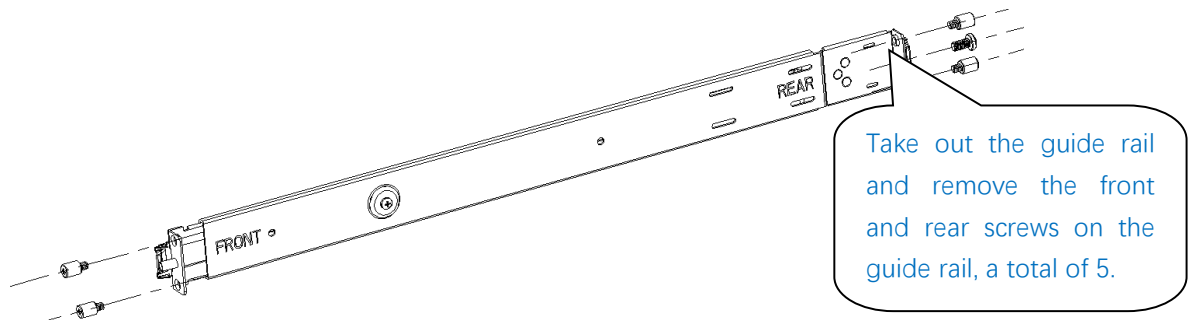
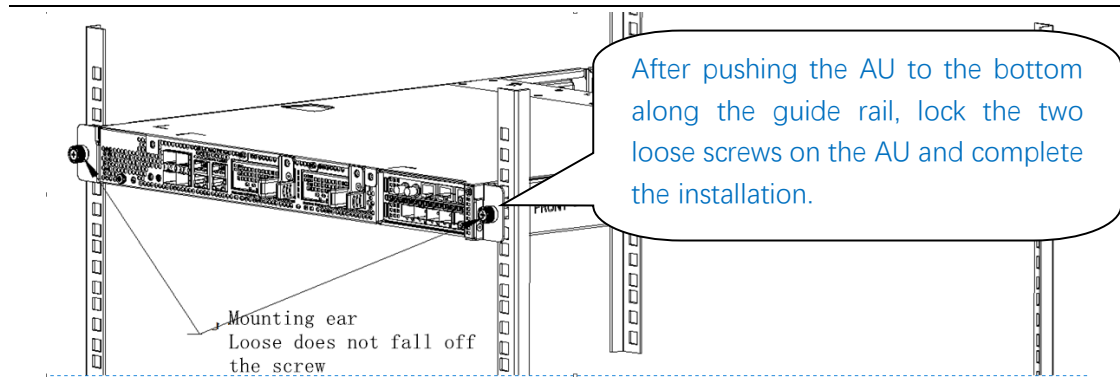

Figure 3-8
Figure 3-11
Step 2: Install the sliding rail on the cabinet, as shown in Figure 3-8 to Figure 3-11.
1. Take out the sliding guide rail and remove the screws on the guide rail, a total of 5, as shown in Figure 3-8